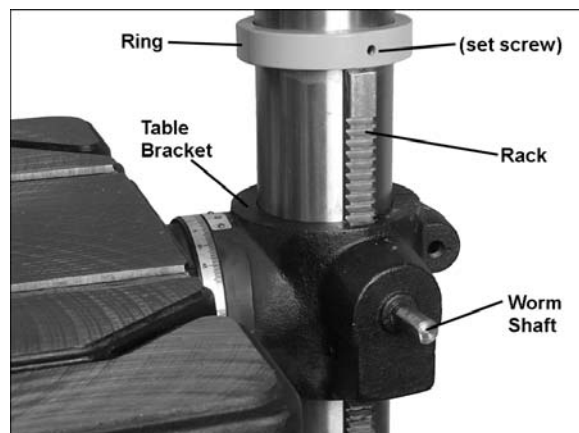

Figure 4
1. Remove the wrap and take the ring from the column by loosening the set screw and sliding the ring off. Also remove the rack. See Figure 4.
7. Place the ring onto the column and slide it down over the top edge of the rack (see Figure 4). Tighten the set screw on the ring.